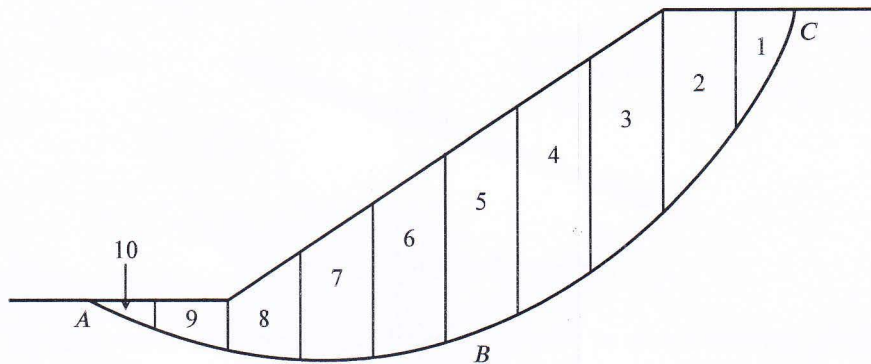

Figure 6: for QUESTION 10(b)
10. (a) A new highway embankment is to be constructed for a proposed 4-lane highway. The height of the embankment is required to be 10 m above the existing ground surface. From the slope stability analysis, it has been found that the critical height of the slope for a slope angle of 45° is 9.5 m. If the embankment (10 m height) is constructed with that slope angle (assuming that other strength parameters of soil are constant), will the embankment be safe? If not, how can the embankment be made safe if the height can not be reduced? (4)
- (b) For the slope shown in Fig. 6, find the factor of safety (F_s) against sliding for the trial slip surface ABC using the Bishop's modified method of slices. Perform two trials assuming $F_s = 1$ and $F_s = 1.5$. (12 $\frac{2}{3}$)